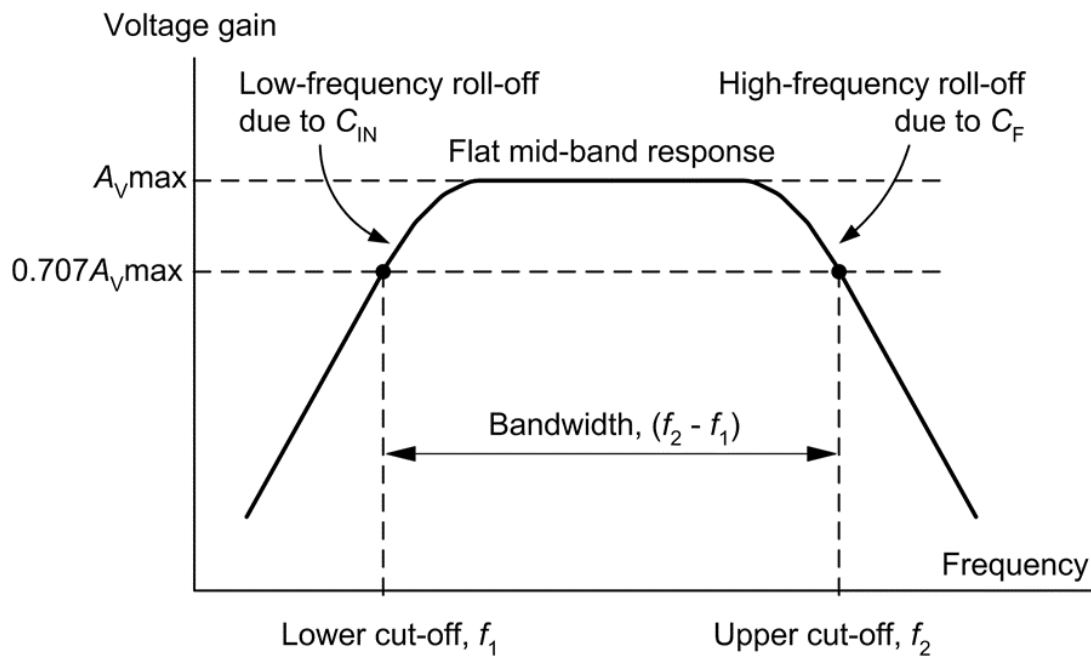

Figure 1.38 Effect of adding capacitors,  $C_{IN}$  and  $C_F$ , to modify the frequency response of an operational amplifier
- The effect of these two capacitors on an operational amplifier's frequency response is shown in Fig. 1.38.